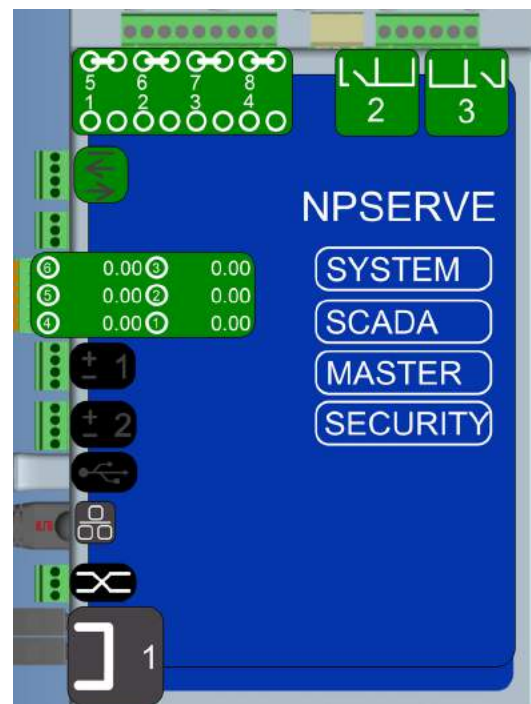

Figure 2. Home web page
Note: Each connection can be selected via the Home web page shown in Figure 2. If a connection is made, the ICON will be active and not grayed out.
1. Relay contacts (1, 2, 3) – Relay 1 is NO contact that can handle 30 Amps. Relay 2 and 3 are 10A form C contacts. All three contacts can be controlled by activating the contact on the NPServe web page (see Figure 2). Each contact will change state after selection and will show the state change once action is complete (see Figures 1 and 2).